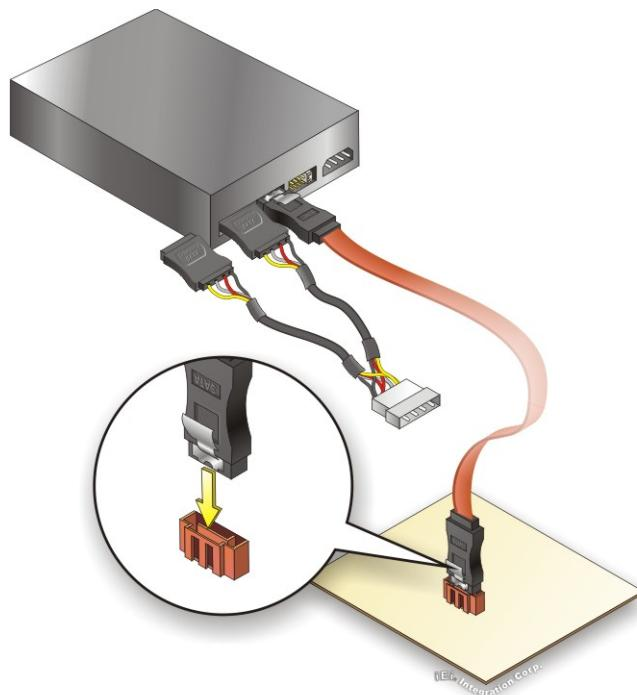

Figure 4-19: SATA Power Drive Connection
- Step 3: Connect the cable to the SATA disk.** Connect the connector on the other end of the cable to the connector at the back of the SATA drive. See **Figure 4-19**.
- Step 4: Connect the SATA power cable.** Connect the SATA power connector to the back of the SATA drive. See **Figure 4-19**.